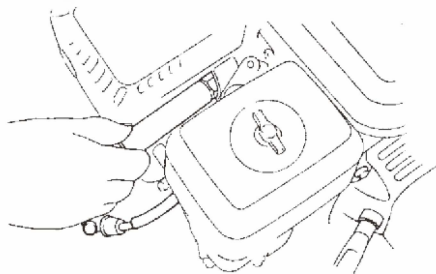

Fig.14
- 7) After installed a new spark plug by hand, tighten it 1/2 circle by wrench (1/8 to 1/4 circle for a used spark plug). See figure 14.